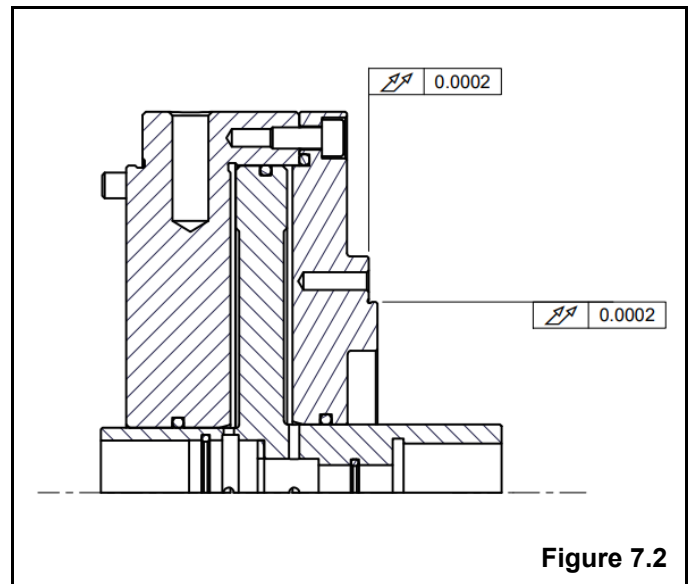

Figure 7.2
3. Use a dial indicator to measure the radial and face runout of the mounting surfaces of the air cylinder assembly, as seen in Figure 7.2. Radial runout should not exceed  $.0002''$  ( $0.005\text{mm}$ ). Runout of the face should not exceed  $.0002''$  ( $0.005\text{mm}$ ).